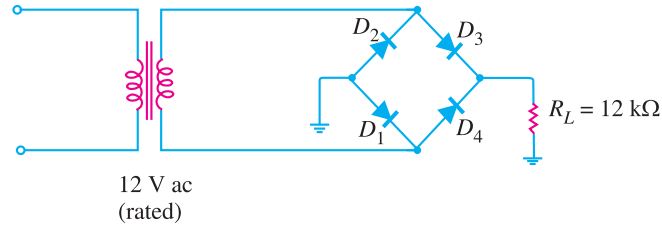

Fig. 6.35
**Example 6.21.** The bridge rectifier shown in Fig. 6.35 uses silicon diodes. Find (i) d.c. output